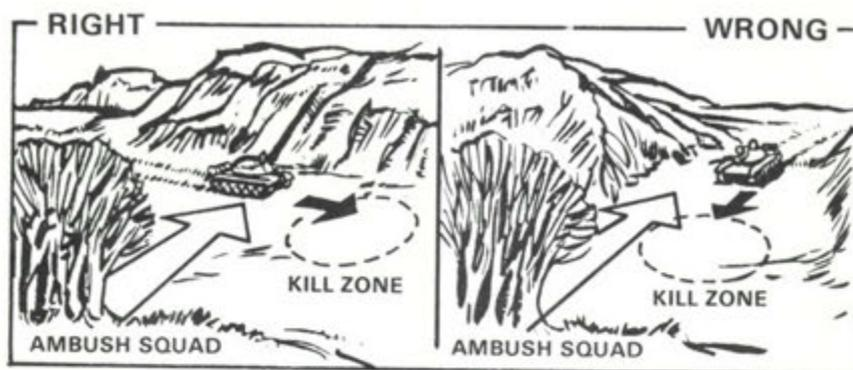

Figure 4.
e. Allow for flank or rear shots from the AT weapons (figure 4).